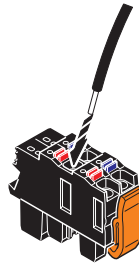
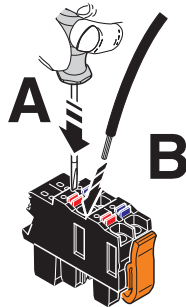

Figure 5-3 Connecting a rigid conductor
Figure 5-4 Connecting a flexible conductor
- Open the spring by pressing on the spring lever with a screwdriver (A in Figure 5-4).
- Insert the conductor into the terminal point (B in Figure 5-4).
- Connect the power supplies to the supply connector as shown in Figure 5-3 and in Figure 5-4. Note the information in Section 3.17.